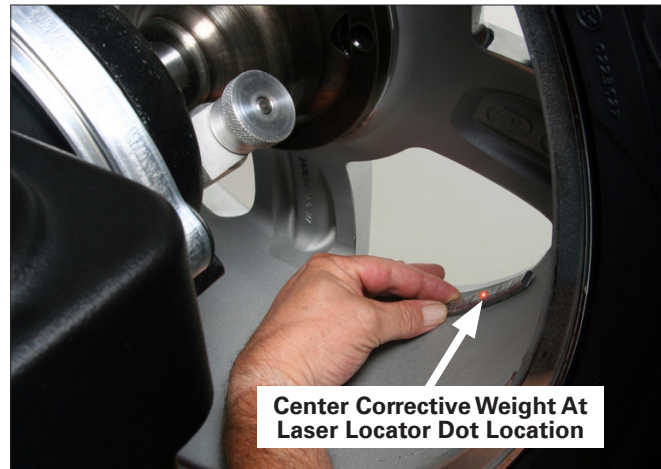

Figure 17 - Centering Corrective Hidden Weight at Laser Dot Location.
8. Center and attach the outboard corrective weight at laser dot location as shown in figure 17.